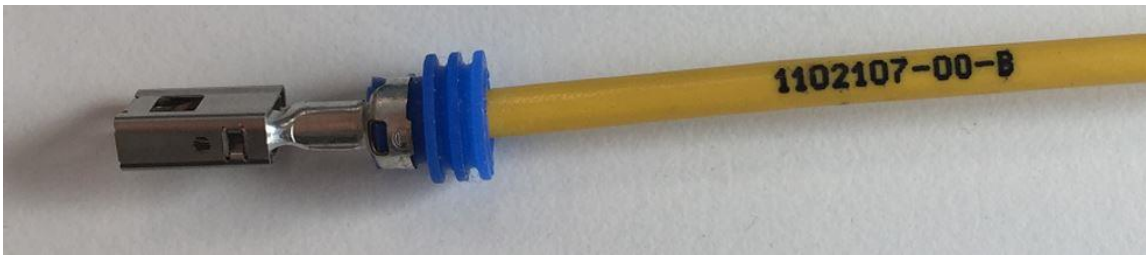
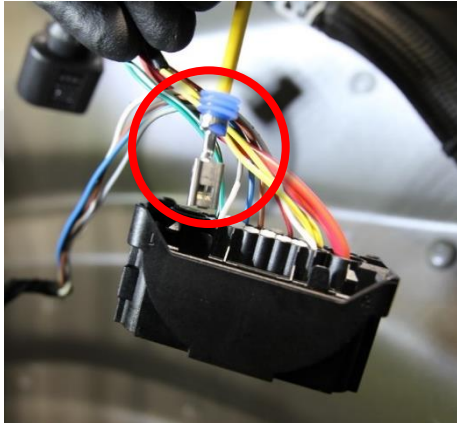

Figure 33
Figure 34
9. Install replacement pin terminal (1102107-00-B) (Figure 33) into the connector housing (Figures 34 and 35), and then perform a push-pull test to verify that the terminal is seated properly.